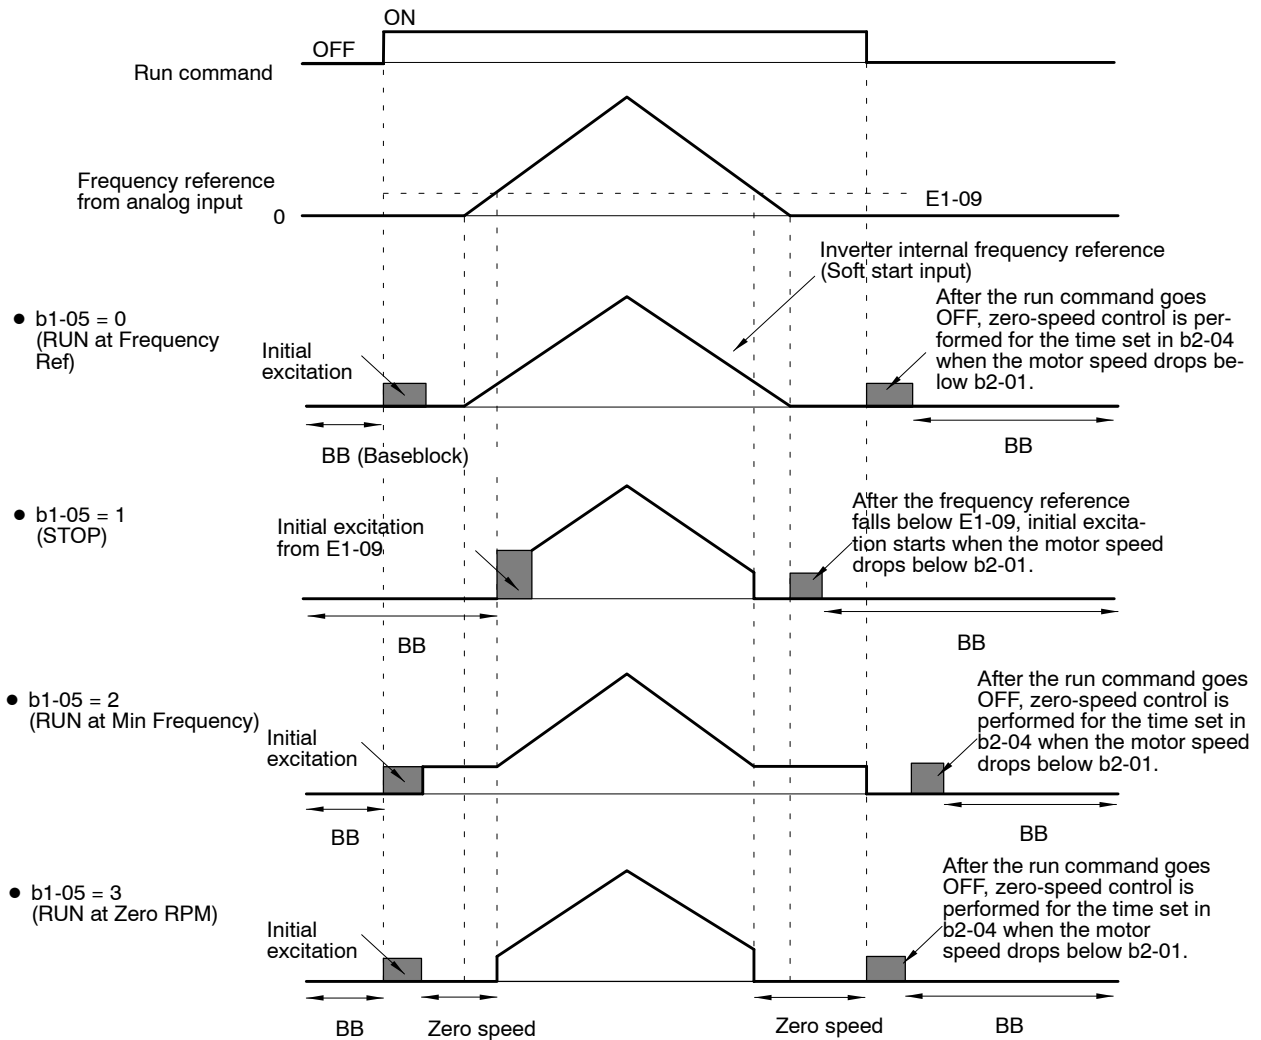

Fig 6.13 Settings for Initial Excitation and Zero-speed Control
- The timing of the initial excitation function depends on the zero-speed operation method selected in b1-05 (zero-speed operation), as shown in *Figure 6.13*.